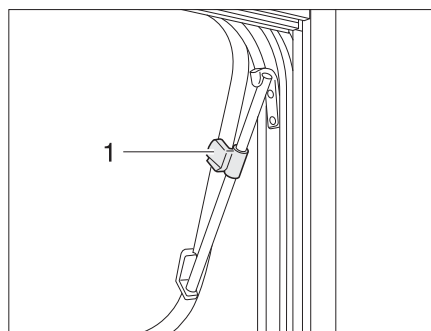

Fig. 9 Hinged window with rotary hinges, open
- Open the hinged window until the required position has been reached and secure in position using the knurled knob (Fig. 9,1).
- Turn the knurled knob (Fig. 9,1) until the latch is released.